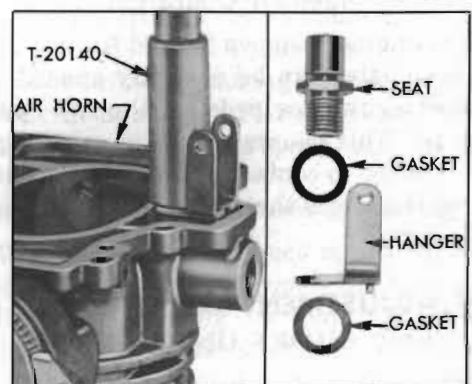

Figure 3-68—Removing Needle Valve Seat and Float Hanger
horn gasket, then remove needle valve seat and float hanger using Wrench T-20140. See figure 3-68.
20. Install float hanger with a *new* gasket on each side and install float needle valve seat, using Wrench T-20140. See figure 3-68.